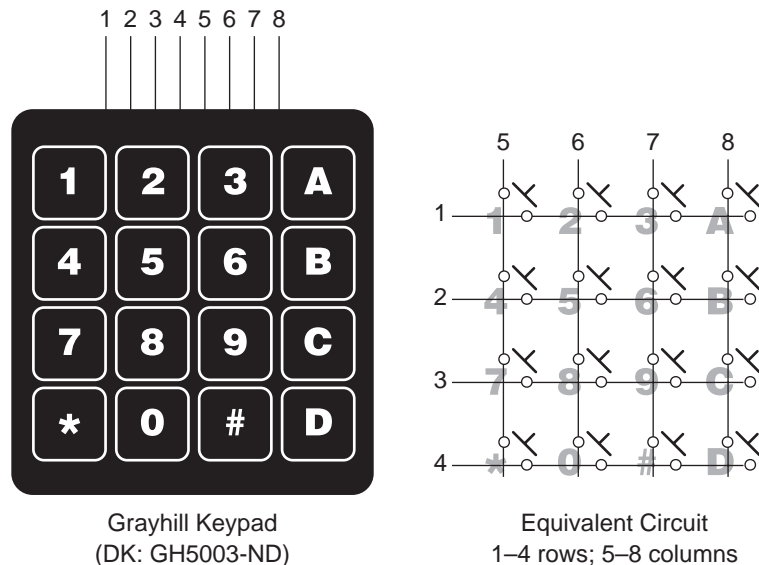

Figure 1. Typical matrix keypad.
**Matrix Keypad.** Figure 1 is a 16-button keypad made by Grayhill and sold through Digi-Key (Sources). As the circuit shows, a keypad is more than just a bunch of buttons bolted to a panel. It's a *matrix* arrangement designed to minimize the number of I/O lines required to read the buttons. Ordinarily, reading 16 button states would require 16 inputs. By arranging the buttons into rows and columns as shown in the figure, we cut the number of pins to eight. This savings in hardware requires some additional software—a keypad scanning routine.
- Finally, a hardware note: In figure 1 there are resistors in series with the lines to the keypad. These are not strictly necessary; they are just a precaution against static damage. If you are just bench-testing the circuit, feel free to omit them. But if you are building a device that will be used in the real world, spring for the resistors. They are cheap, partial protection against static zaps from users' fingertips.